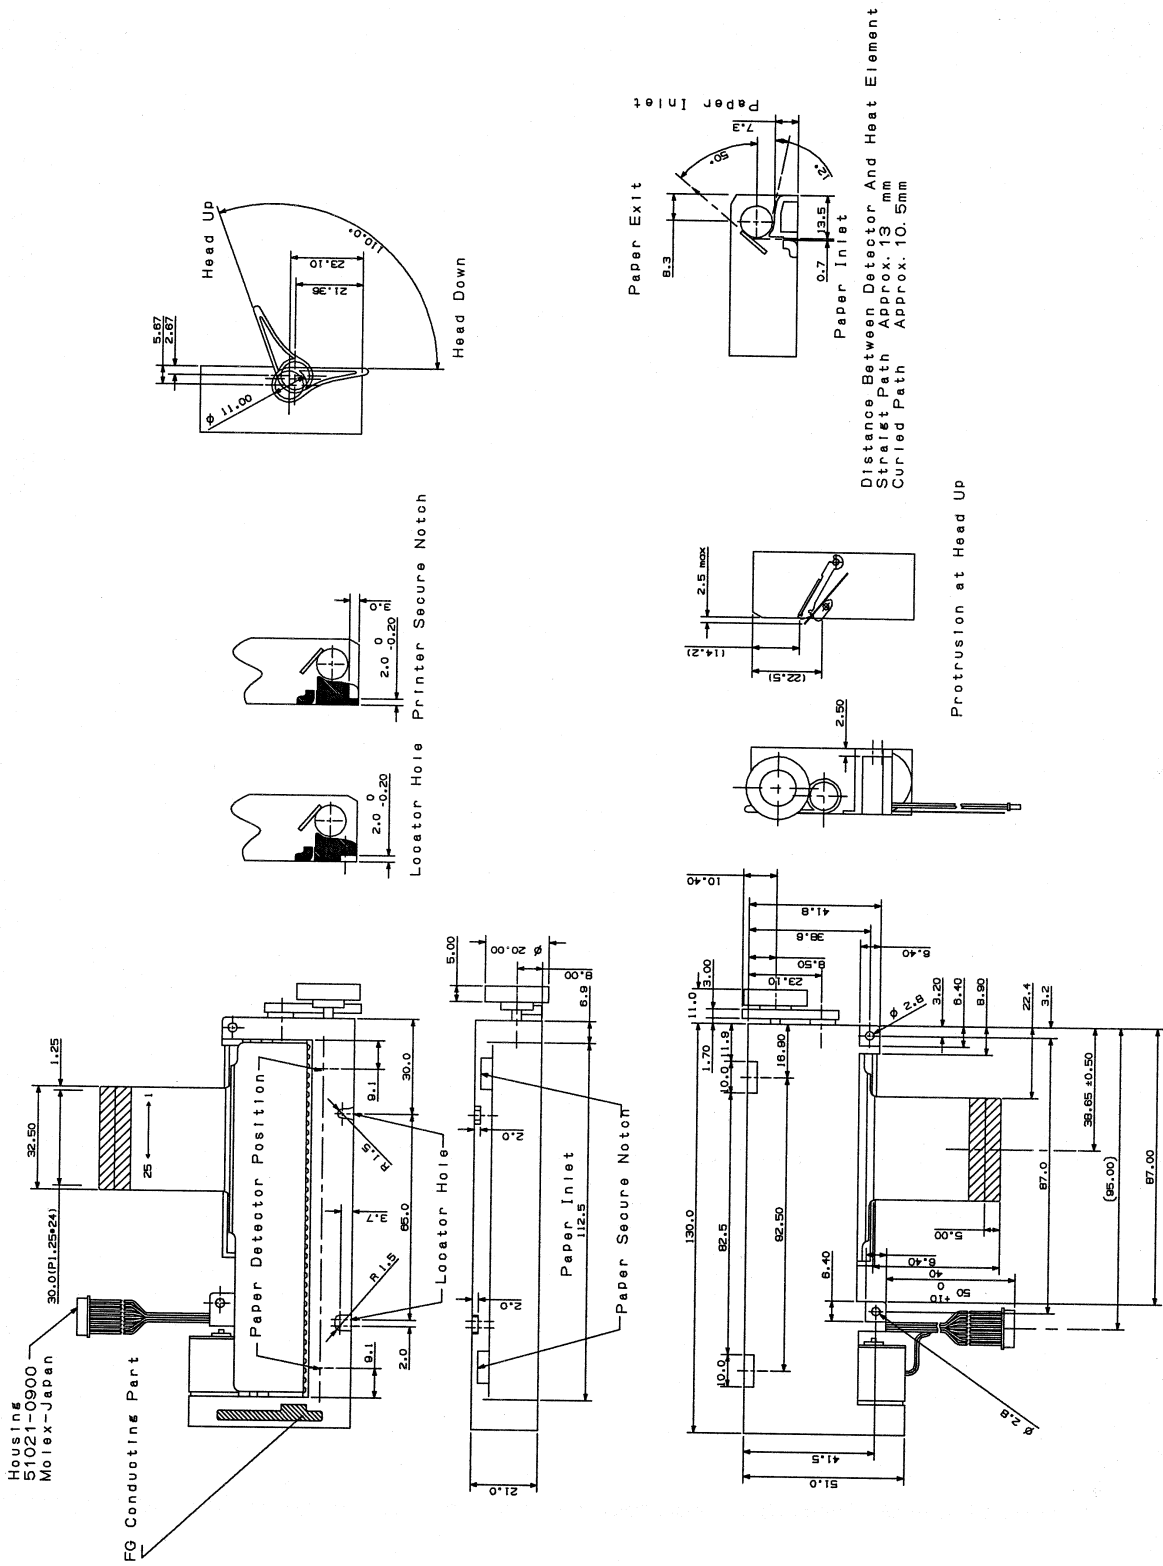

Figure 6-1 LTP3445 Appearance and Dimensions
Secure the printer with 2 mounting holes ($\phi 2.8$) and 2 shaped indents. Refer to “Figure 6-1 LTP3445 Appearance” of “CHAPTER 6 APPEARANCE AND EXTERNAL DIMENSION” for the locations and dimensions.
Install the paper cutter so that it does not interfere with the paper feed. The angles and positions for feeding paper are shown in Figure 6-1.
Figure 6-1 shows the appearance and external dimensions of the LTP3445.
- ② When turning the power on or off, always disable (put in low state) the DST terminals.
- ③ To prevent the thermal head from being damaged by static electricity:
- Connect the FG connector (see Figure 6-1) to the FG
- ④ Keep the V_P power off while not printing in order to prevent the thermal head from being electrolytically corroded.